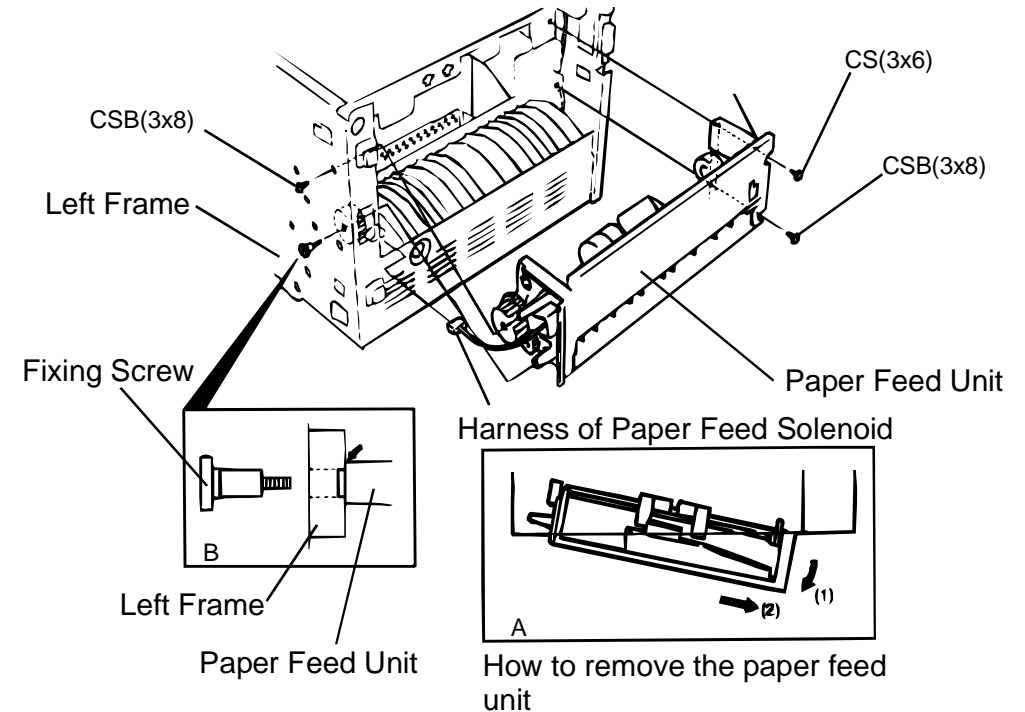

Figure 4-19. Paper Feed Unit Removal
11. Pull the right side of the paper feed unit toward yourself(1), and remove it, moving the whole unit to right side.(2) (See "A" in figure4-19)
***When installing the fixing screw, make sure that the paper feed unit is in the frame.(See "B" in figure4-19)***